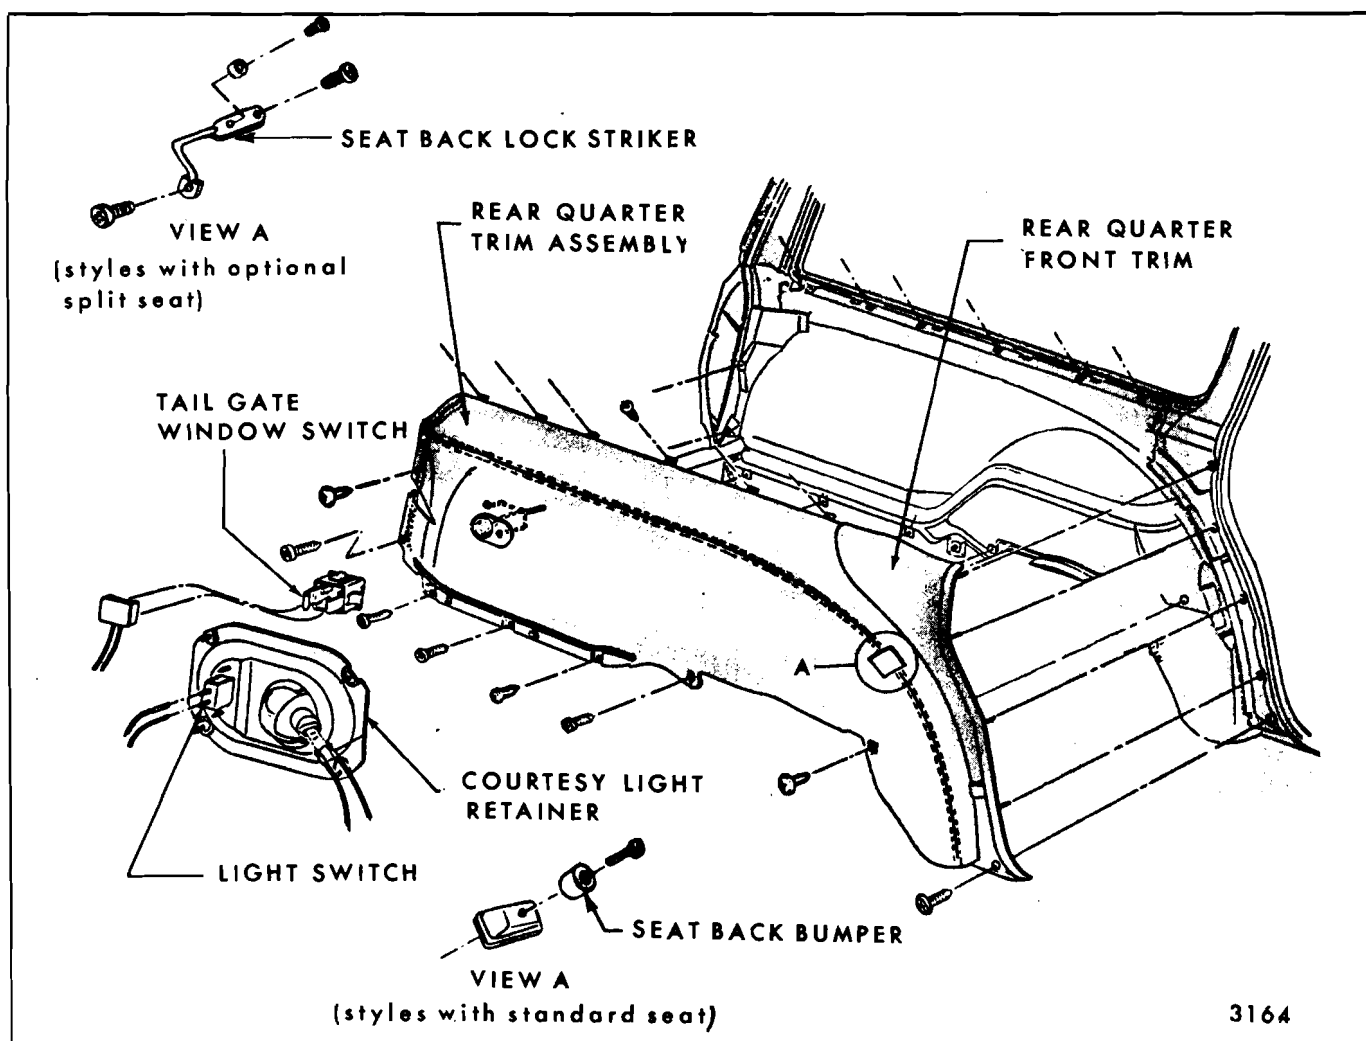

Fig. 14-32—Rear Quarter Trim Panel (Left Side) - "B" Station Wagon
3. Remove seat back bumper or seat back lock striker (only on styles with optional split seat), as shown in Fig. 14-32.
4. Remove all screws securing trim panel to rear quarter inner panel (Fig. 14-32).
5. With a suitable flat-bladed tool, carefully disengage trim retainers from rear quarter inner panel along leading edge of rear body lock pillar (on front edge of rear quarter front trim assembly) (Fig. 14-32).
6. Lift assembly upward slightly to disengage from rear quarter inner panel and remove assembly from body. On styles equipped with courtesy lamp disconnect feed wire from switch and lamp (Fig. 14-32).